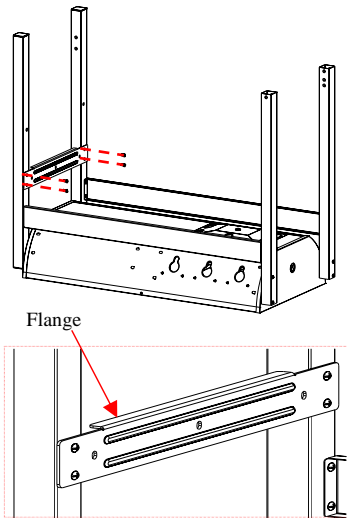

Fig. 3
Procedure: Attach the Firebox Supporting Brace to Right Rear Leg #1 and Right Front Leg #2 using (4) M6x12 bolts as shown as Fig. 3.